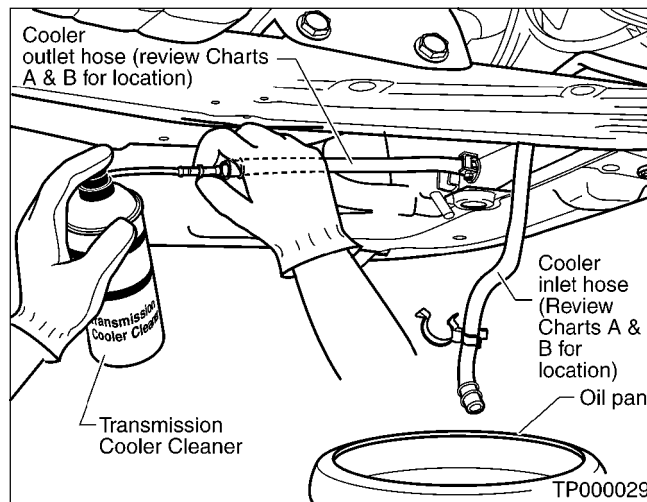

Figure 4
5. Insert the "extension adapter hose" from a can of Transmission Cooler Cleaner (Nissan P/N 999MP-AM006) into the Cooler Outlet hose (see Figure 4).
3. Insert the extension adapter hose of a can of Transmission Cooler Cleaner (Nissan P/N 999MP-AM006) into the Cooler Outlet hose (see Figure 4 on page 5).